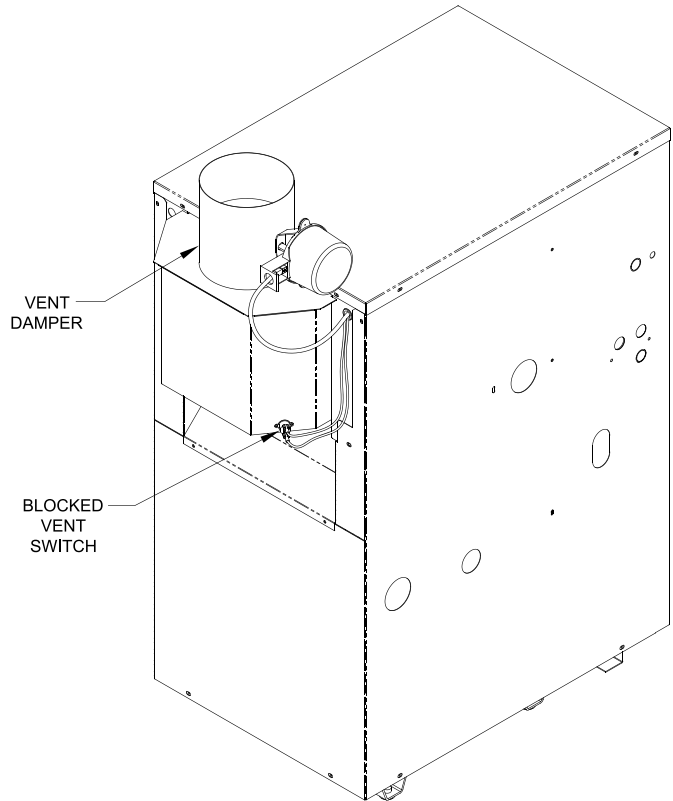

Figure 7: Vent Damper Installation
2. Mount the vent damper assembly onto the canopy/diverter. (Refer to Figure 7 and to instructions packed with the vent damper for specific instructions). Do not modify either the draft hood or vent damper.